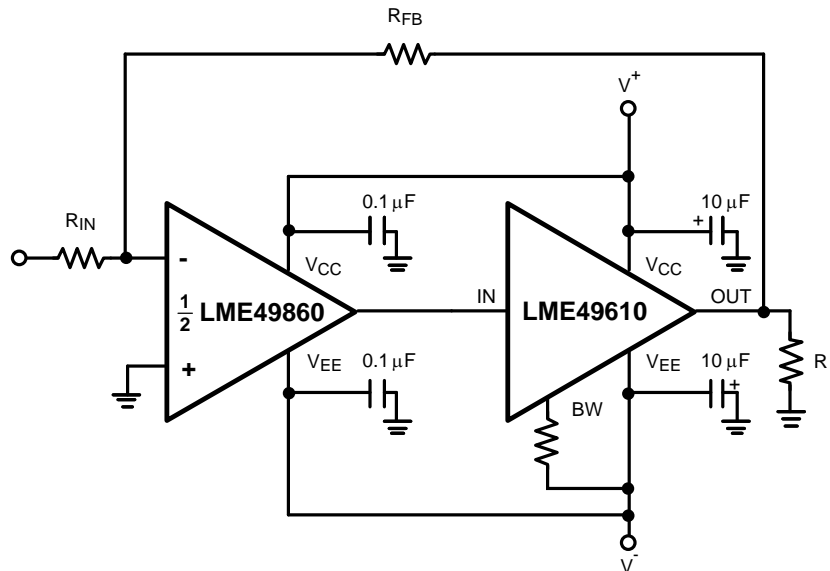

Figure 27. High Performance, High Fidelity LME49610 Audio Buffer Application
- (1) “*Absolute Maximum Ratings*” indicate limits beyond which damage to the device may occur, including inoperability and degradation of device reliability and/or performance. Functional operation of the device and/or non-degradation at the Absolute Maximum Ratings or other conditions beyond those indicated in the *Recommended Operating Conditions* is not implied. The *Recommended Operating Conditions* indicate conditions at which the device is functional and the device should not be operated beyond such conditions. All voltages are measured with respect to the ground pin, unless otherwise specified
- (2) The *Electrical Characteristics* tables list specifications under the listed *Recommended Operating Conditions* except as otherwise modified or specified by the *Electrical Characteristics Conditions* and/or Notes. Typical specifications are estimations only and are not ensured.
- (3) If Military/Aerospace specified devices are required, please contact the Texas Instruments Sales Office/ Distributors for availability and specifications.
- (4) Human body model, applicable std. JESD22-A114C.
- (5) Machine model, applicable std. JESD22-A115-A.
- (6) The maximum power dissipation must be derated at elevated temperatures and is dictated by  $T_{JMAX}$ ,  $\theta_{JA}$ , and the ambient temperature,  $T_A$ . The maximum allowable power dissipation is  $P_{DMAX} = (T_{JMAX} - T_A) / \theta_{JA}$  or the number given in *Absolute Maximum Ratings*, whichever is lower. For the LME49610, typical application shown in Figure 27 with  $|V_{EE}| = V_{CC} = 15V$ ,  $R_L = 32\Omega$ , the total power dissipation is 1.9W.  $\theta_{JA} = 20^\circ\text{C/W}$  for the DDPAK/TO-263 package mounted to  $16\text{in}^2$  ( $103.2\text{ cm}^2$ ) 1oz. copper surface heat sink area.
| THD+N             | Total Harmonic Distortion + Noise (3) | $A_V = 1$ , $V_{OUT} = 3V_{RMS}$ ,$R_L = 32\Omega$ , BW = 80kHz,closed loop (see Figure 27.)$f = 1kHz$$f = 20kHz$ | 0.0000350.0005                                 |  | %%                              |